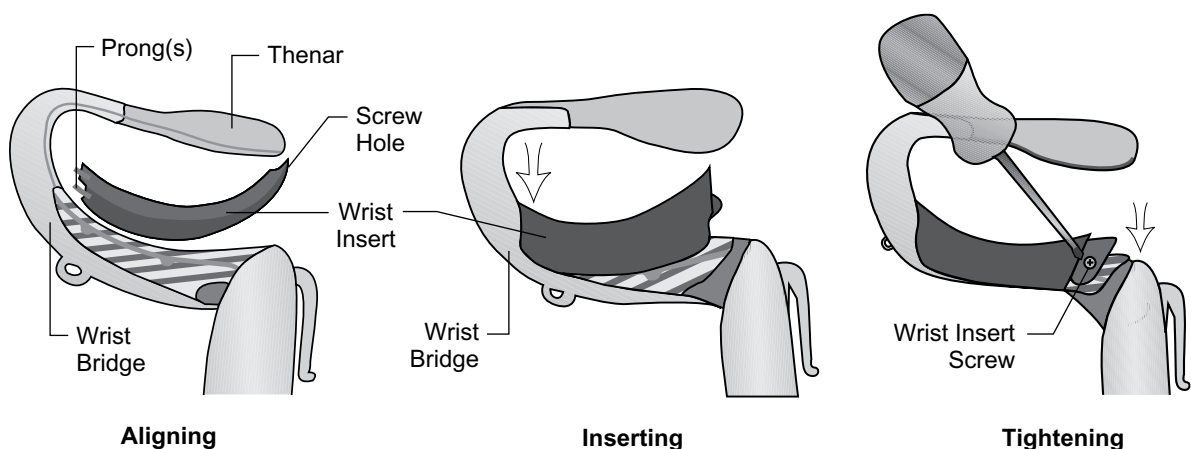

Figure 6-4: Aligning the Wrist Insert, Inserting the Wrist Insert into the Wrist Bridge, Tightening the Wrist Insert Screw
3. Align the wrist insert over the wrist bridge. The prong(s) on the wrist insert should be distal and the screw hole proximal. See Figure 6-4.
4. Insert the wrist insert prong(s) into the wrist bridge. See Figure 6-4. Do not damage the electronic circuitry in the wrist bridge.
6. Insert the wrist insert screw into the screw holes, and tighten the screw. See Figure 6-4.